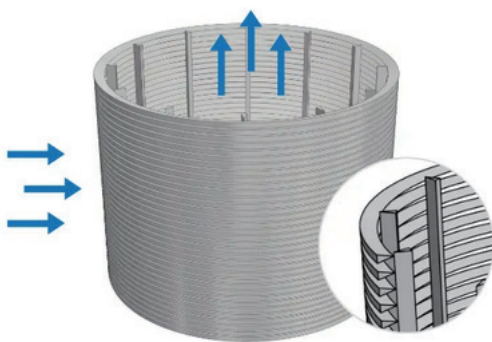

Figure 1-1 Radial External – FOTI Standard
- When the flow direction is from outside to inside (FOTI), the flat side of the surface wire is on the outside of the tube, shown as figure 1-1